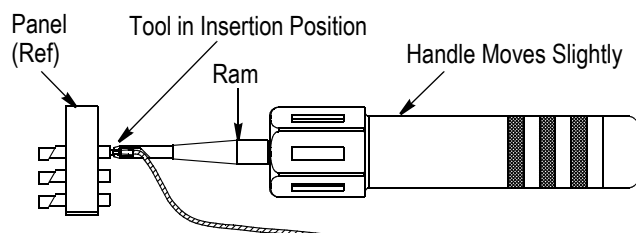

Figure 5
- a. With the tool still in position after inserting the taper pin, slowly begin to pull straight back on the handle until the handle begins to move on the ram (see Figure 5), then relax the pull and allow the handle to return to its original position.